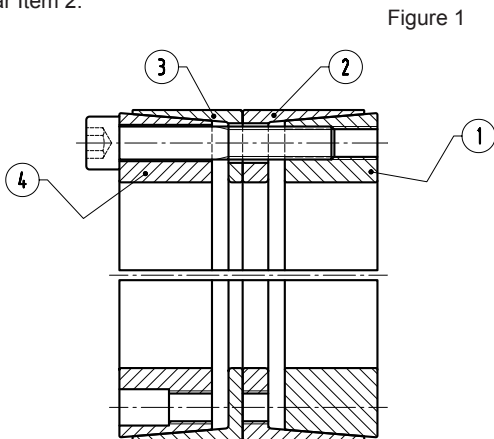

Figure 1
(Refer to Figure 1)
3. Making sure all slits are aligned, install collars in order 1, 2, 3, 4 (see Figure 1). Locking screws may be used temporarily to manipulate collars during assembly.
4. After all 4 collars are installed, insert all locking screws as shown in Figure 1.